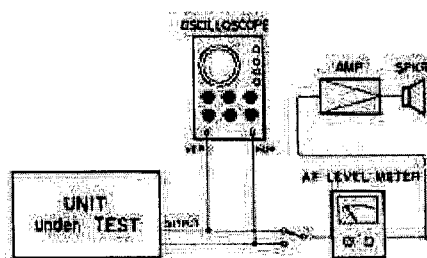

Fig. 9-7-6. Head Azimuth Test Set-Up
3. Connect an AF level meter to the OUTPUT connectors as shown in Fig. 9-7-6.